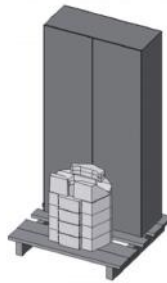

FIG. 2 - PACKAGE OF REFRACTORY PARTS AND BOX WITH SIDES AND TOP
- A pallet contains the refractory parts Fig 2.